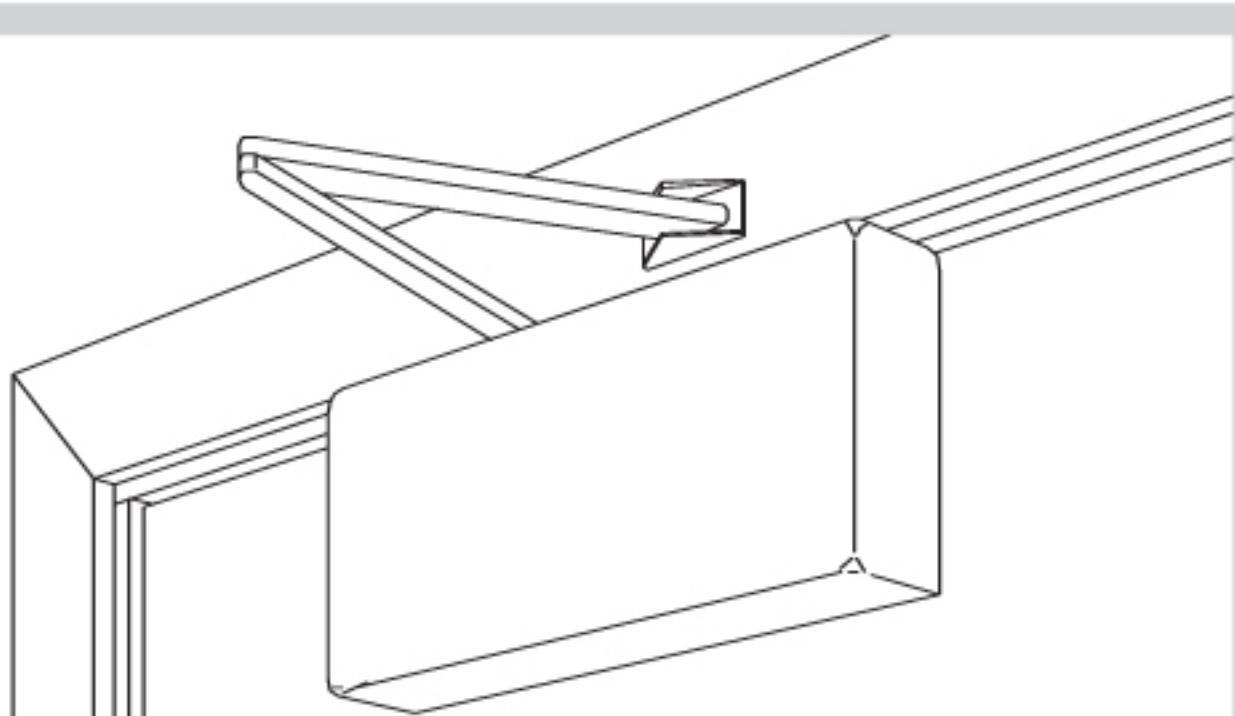

Fig. 13
- 1 Position closer reinforcement on header where the door closer shoe is to be mounted (Fig. 13 & 14).